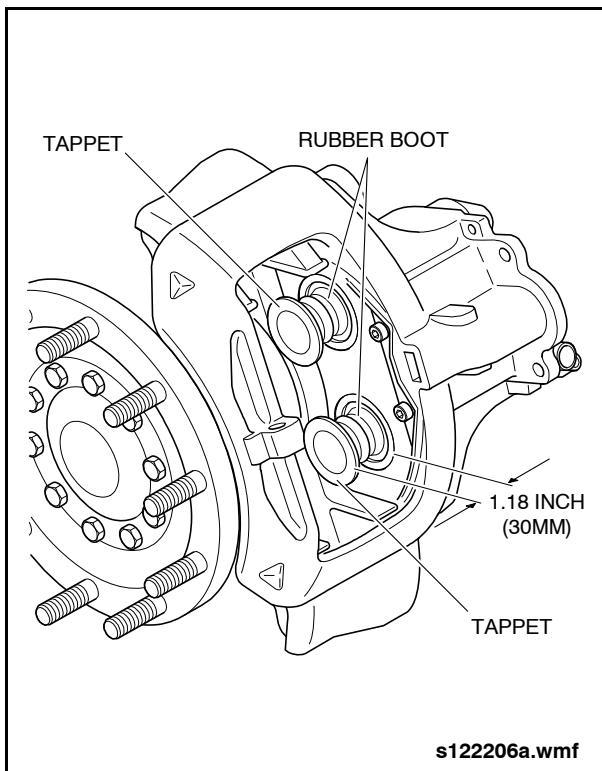

Fig. 1-48: Tappet & Rubber Boot Inspection
2. Rotate the adjuster clockwise until the tappets extend approximately 1.18" (30) from the caliper surface. This will allow full extension of the tappet rubber boot for a proper visual inspection. See "Fig. 1-48: Tappet & Rubber Boot Inspection" on page 58.